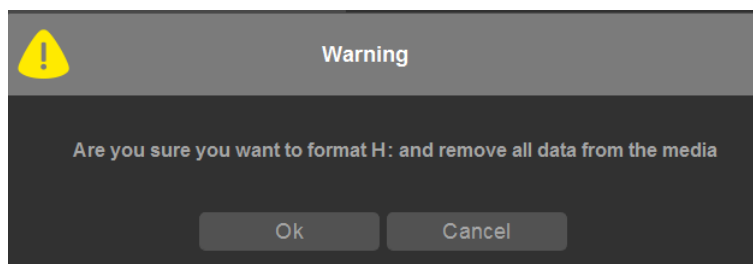

Figure 4-15. Format Warning Pop-up Window
4. The system displays a pop-up menu, as shown in Figure 4-15, select OK to continue.